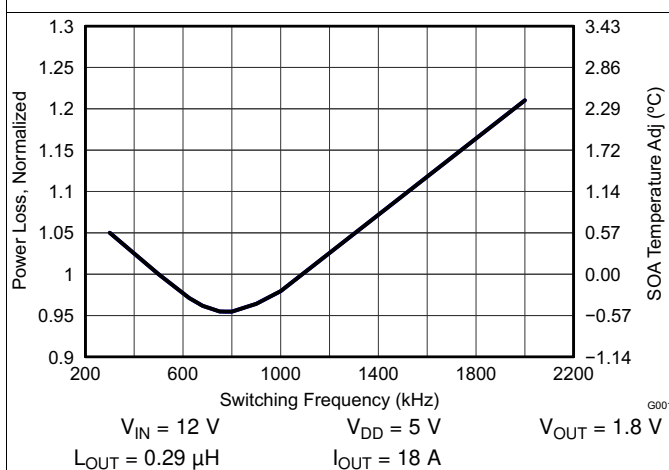

Figure 5. Normalized Power Loss vs Frequency
- Normalized power loss for switching frequency  $\approx$  1.09 (Figure 5)
- SOA adjustment for switching frequency  $\approx$  1.1°C (Figure 5)